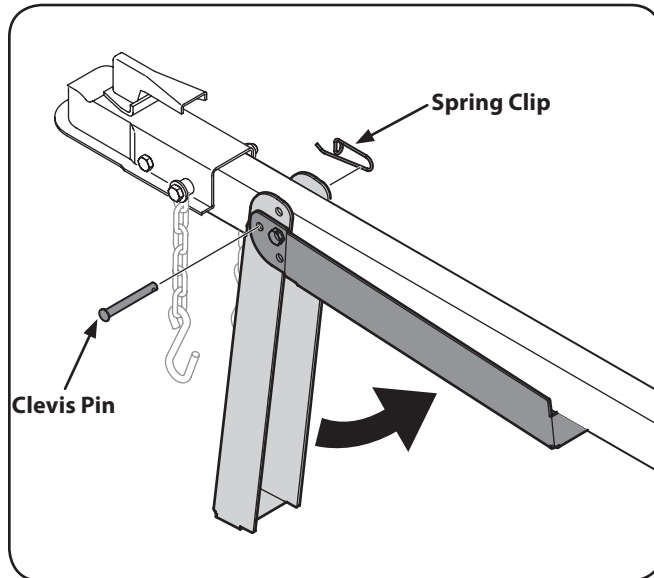

Figure 5-5
3. Support the tongue and pivot the jack stand up against the tongue. See Fig. 5-5.
4. Secure the tongue with the spring clip and clevis pin previously removed. See Fig. 5-5.